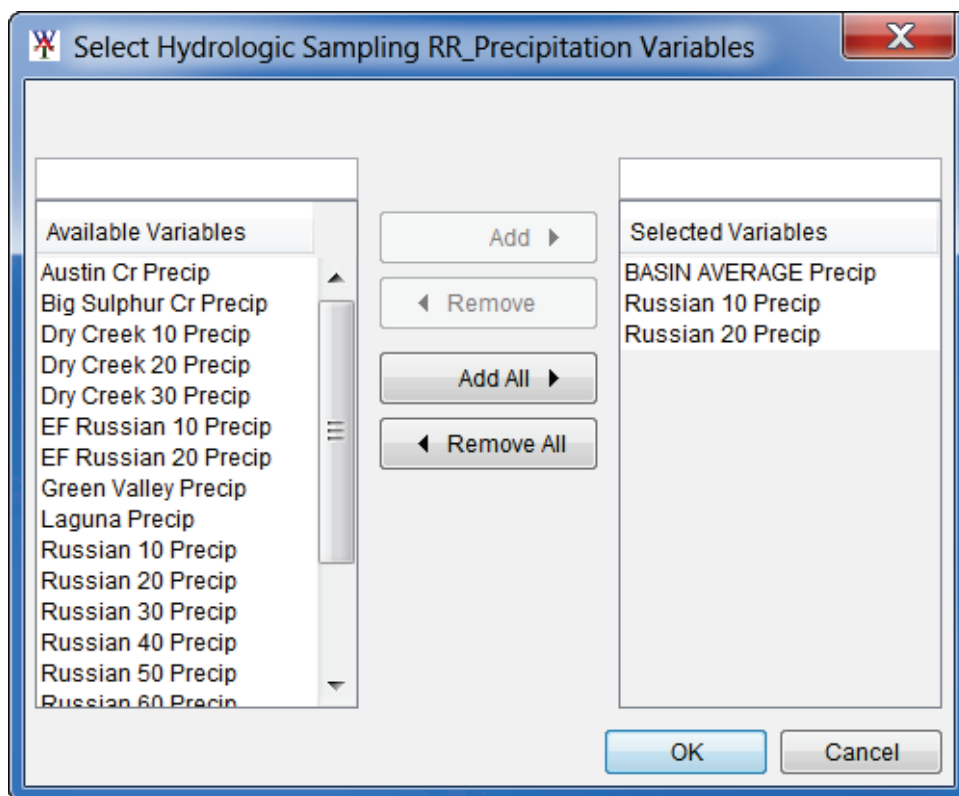
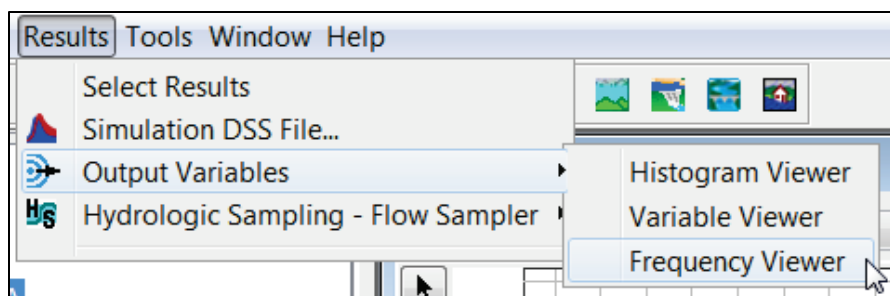

**Figure 16.2** HEC-WAT Main Window
Figure 16.7 HEC-WAT Main Window – Results Menu – Output Variables
1. From the HEC-WAT main window (Figure 16.2), from the **WAT Tools** toolbar, click
Results from the output variables can be accessed from the HEC-WAT main window (Figure 16.2). From the **Results** menu (Figure 16.7), point to **Output Variables**. Three options are available to visualize output variables - **Histogram Viewer**, **Scalar Viewer**, and **Frequency Viewer**.